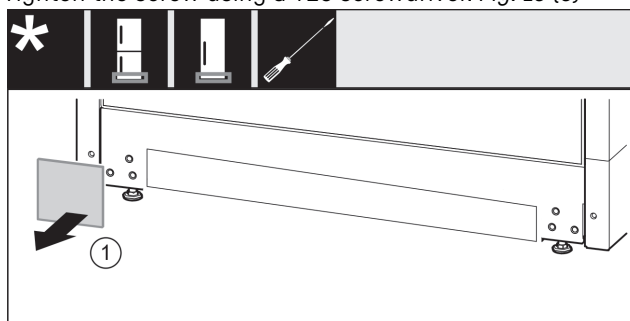

Fig. 14
- Remove the cover. *Fig. 14 (1)*